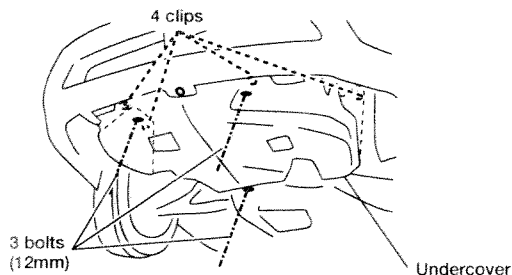

Figure 3-1 (Bottom of engine)
1. Secure and lift the vehicle up. Remove the undercover. (Figure 3-1)